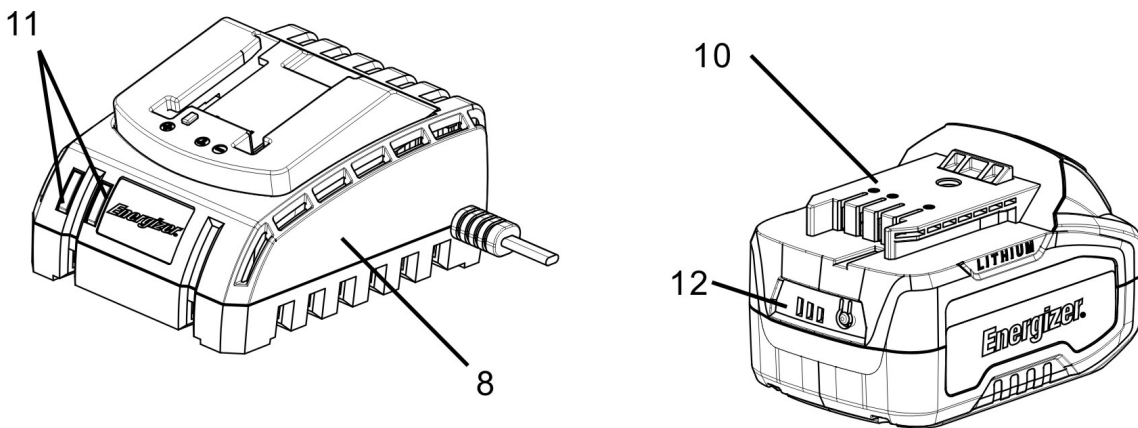

Fig.2
5.1 CHARGING THE BATTERY PACK (FIG. 2)